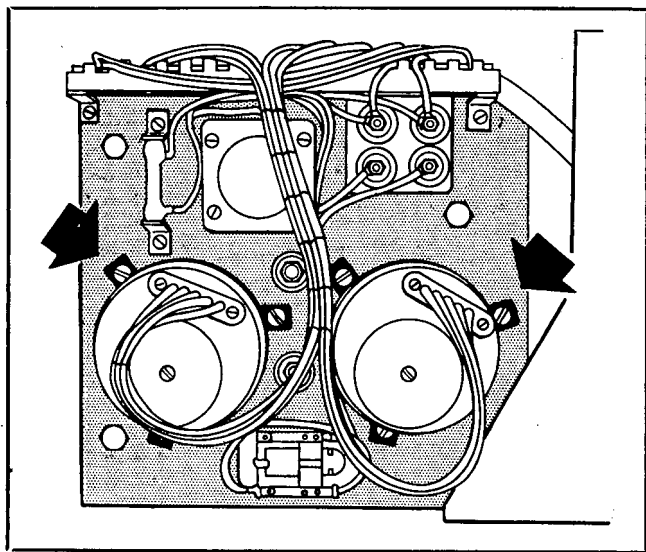

Figure 7-64. Synchro Adjustments in Synchro Amplifier
(2) If it is necessary to zero the synchro control transformers, clamp the 36-speed brush assembly in its zero position as directed in the preceding paragraph. Connect the R2, S1 and S3 leads of each synchro to one side of a 78-volt source. Then connect the S2 lead to the other side of the 78-volt source. Connect a voltmeter to the R1 and S2 leads and rotate the stator of the synchro to the point where the highest voltage reading is obtained. Then rotate the stator 90 degrees counterclockwise. Disconnect the voltmeter and disconnect the R2 lead from the 78-volt source. Reconnect the voltmeter to the R1 and R2 terminals on the 36-speed synchro. Rotate the stator until minimum voltage is obtained on the meter. Clamp the stator in this position.
(3) To accurately zero the one-speed synchro, disconnect the LR2 terminal from the 78-volt source and connect a voltmeter between terminals LR1 and LR2. Connect a 115-volt source to terminals M3 and M4 on the terminal board in the Synchro Unit. Connect terminal M3 to terminal LS2. Rotate the stator until a minimum voltage reading is obtained and clamp the stator in this position. Remove the clamp on the 36-speed brush assembly. The synchro adjustments are shown in Fig. 7-64.